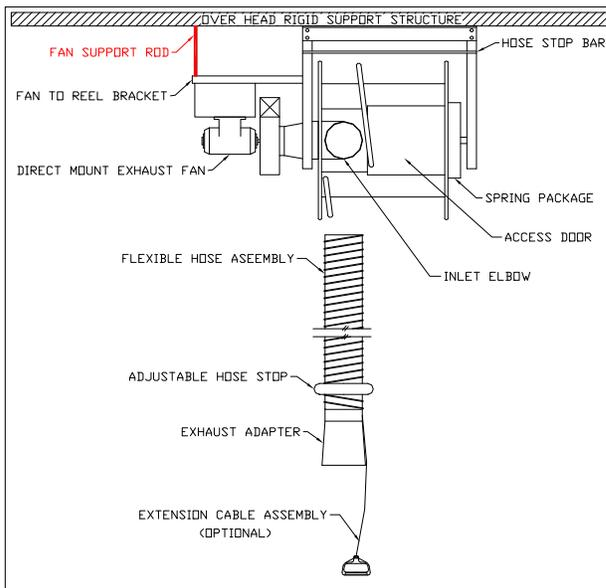

FIG2A - REEL WITH INTEGRAL EXHAUST FAN
5. For hose reel with direct mounted fan, an additional support is required to support the fan. Run a ½” bolt/rod (not provided) down from overhead structure to the hole in the end of the rectangular steel fan to reel bracket and secure with locking fasteners. Reference FIG2A.